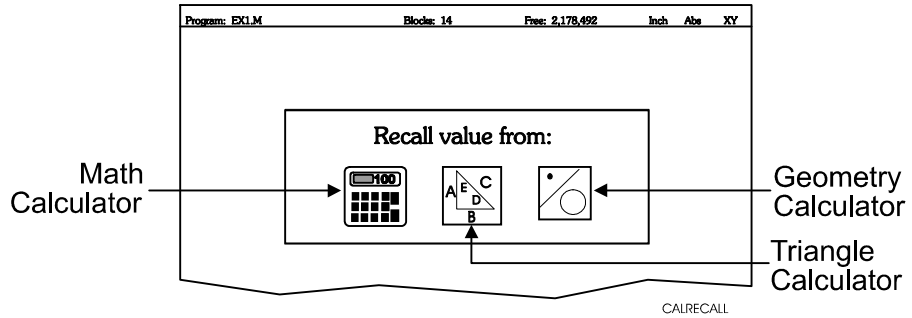

Figure 12-7, Recall value from: Pop-up Menu
2. Press **Recall (F2)** to display the **Recall value from:** pop-up menu. Refer to **Figure 12-7**.